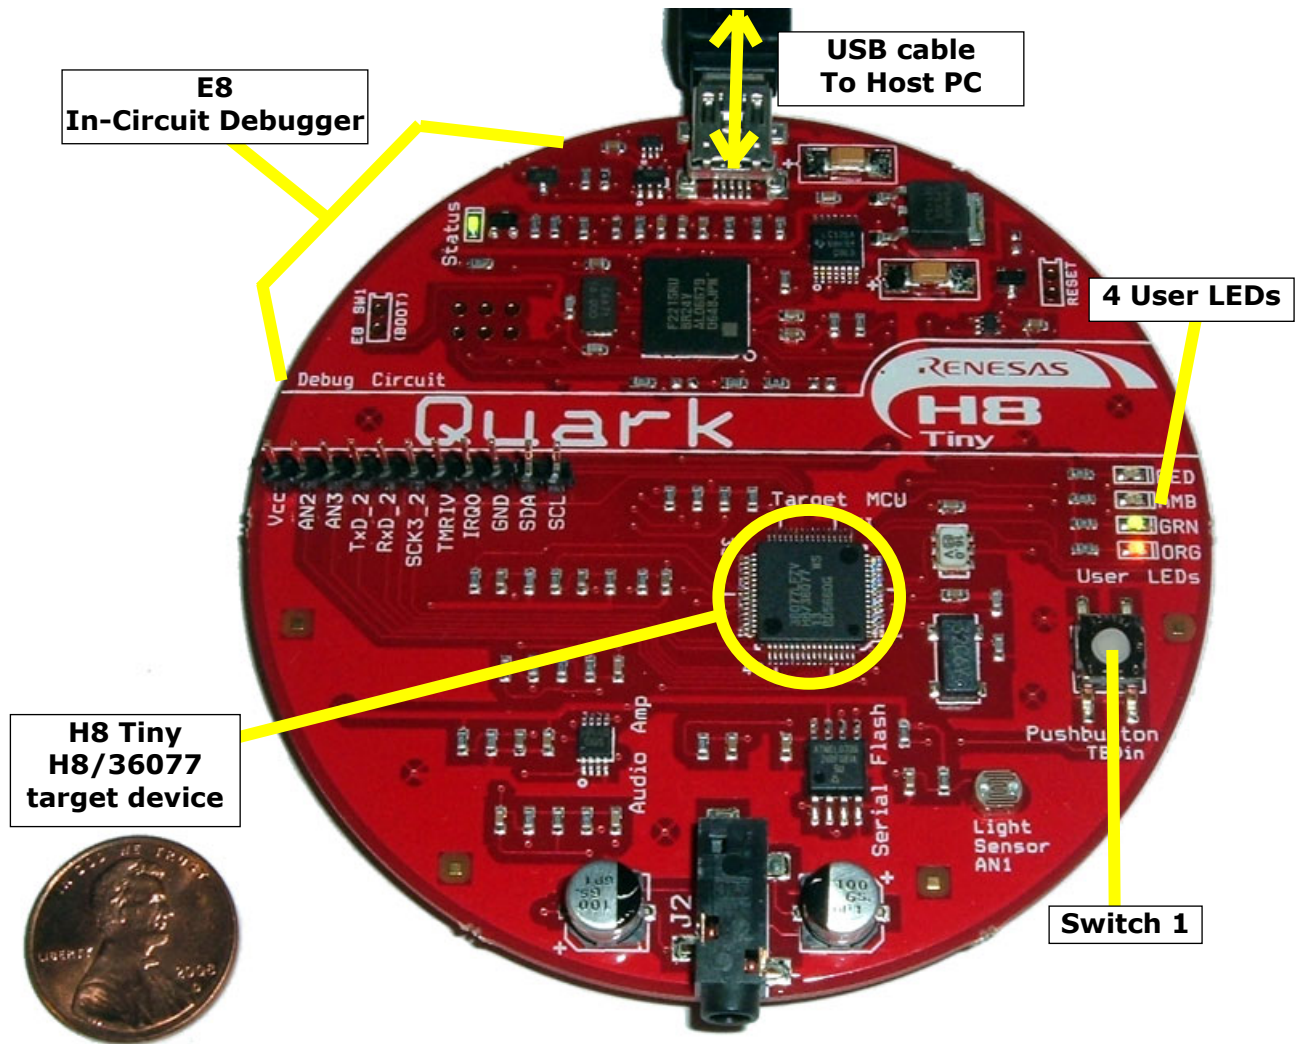
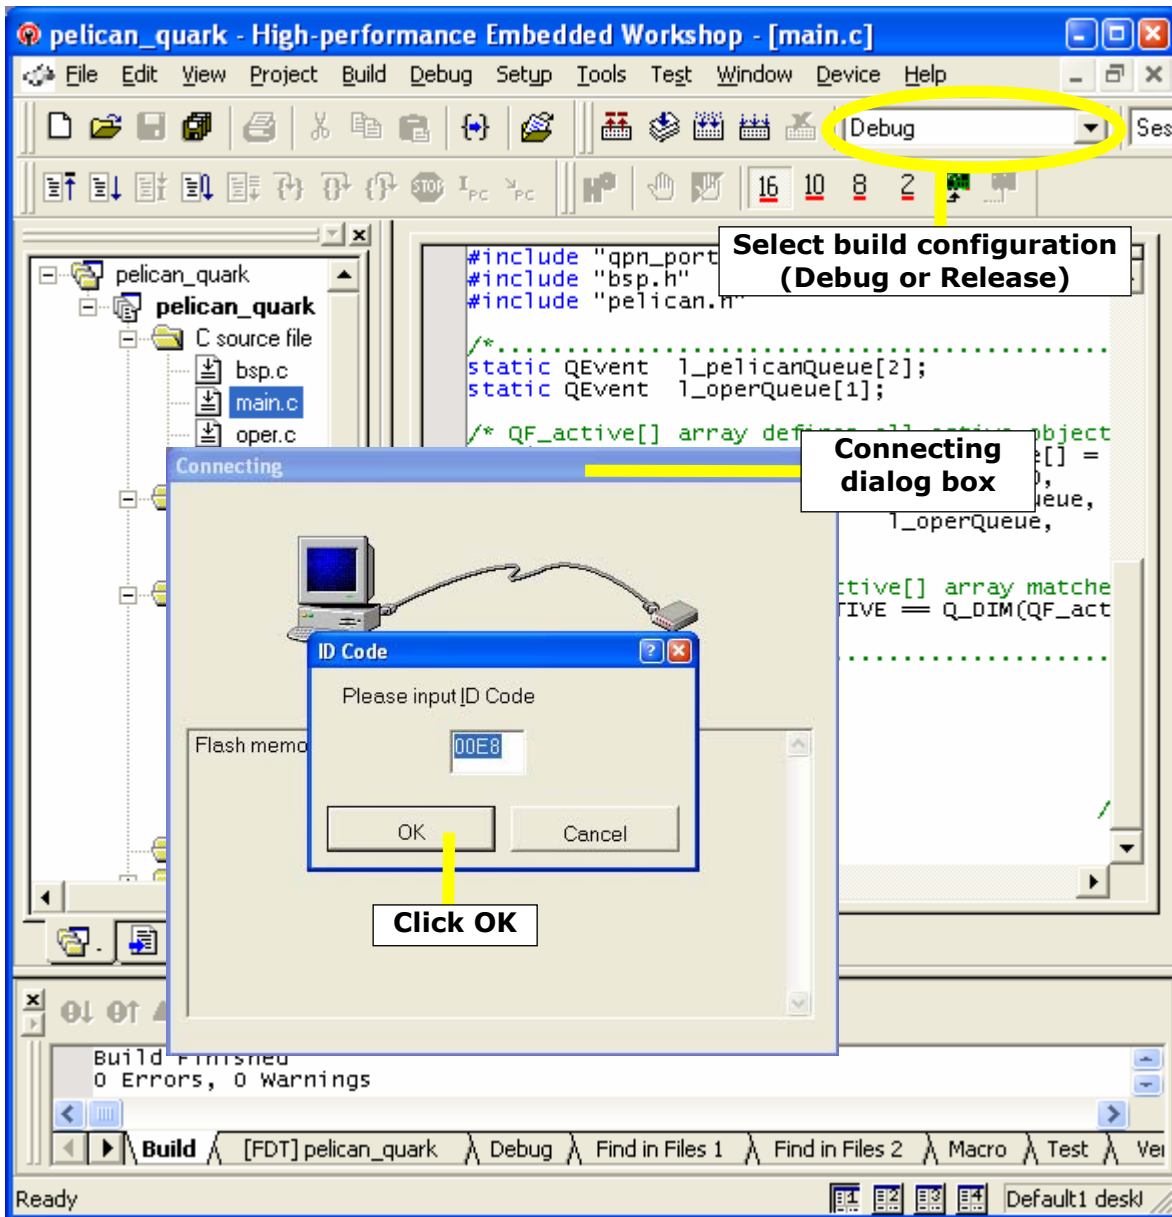

Figure 1 Renesas H8/Quark board with built-in E8 In-Circuit Debugger.
Figure 2 HEW IDE with the pelican_quark project
The actual hardware/software used to test this QDK-nano is described below (see Figure 1):
As shown in Figure 1, the Renesas H8/Quark board contains the E8 In-Circuit Debugger that connects directly to the host development workstation via the provided USB cable. The USB connection also powers up the board, so no additional power is required. This QDK-nano has been tested with the H8/36077 device with 4KB of RAM and 56KB of onboard flash. However, the described port should be applicable to most H8, H8S, and H8/300 devices.
The example directory contains the HEW workspace file `pelican_neutrino.hws` that you can load into the HEW IDE. The workspace contains two build configurations (Debug and Release) that you can select with the drop-down list, as shown in Figure 2.
2. Launch HEW IDE and open the project `pelican_quark.hws` (located in `<qpnan>\examples\h8\renesas\pelican_quark\`). Figure 2 shows the screen shot of the HEW IDE after opening the project.
3. Establish a connection to the QUARK board by clicking OK in the "Connect" dialog box (see Figure 2).
NOTE: The PELICAN example workspace comes with two build configurations: Debug and Release. You select the build configuration through the drop-down box, as shown in Figure 2.
The HEW debugger can directly communicate with the E8 In-Circuit Debugger (see Figure 1). To load the code into the MCU's flash, select Debug | Download Modules menu (see Figure 2). This will launch the progress-bar message box. When the message box window goes away, the MCU is programmed.
Figure 1 shows the PELICAN example running on the QUARK board. The operation of the PELICAN crossing is visualized by means of the User LEDs. The LEDs are used for the cars (red, yellow, and green LED as red, yellow, and green light for the cars). The bottom orange LED is used as signal for pedestrians (orange LED on means "DON'T WALK"). **The traffic light is activated by pressing Switch SW1** (see Figure 1).